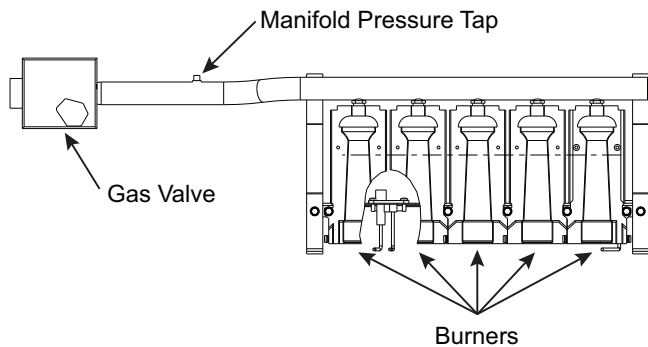

Fig. 58 — Burner Tray Details
10. Slide the burner tray out of the unit (see Fig. 58).
2. Remove manifold pressure tap plug from manifold and connect pressure gauge or manometer. (See Fig. 58.)
11. Turn off unit, remove pressure manometer and replace the manifold pressure tap plug. (See Fig. 58.)